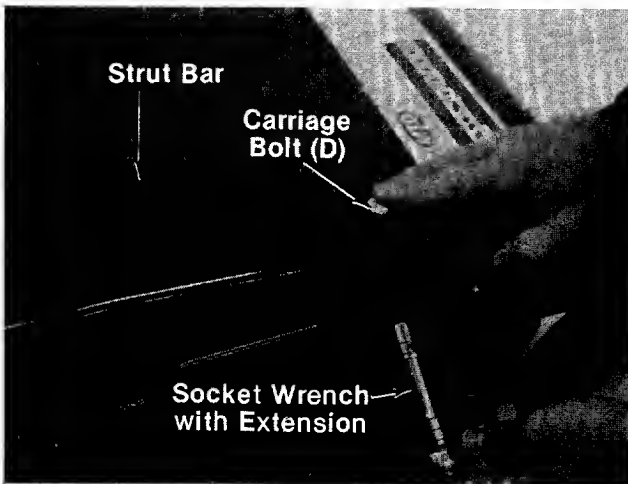

FIGURE 5.
2. Attach the strut bars to the frame with carriage bolts (D), lock washers (H) and hex nuts (I). Lock washers and hex nuts go beneath the deck. A socket wrench with an extension is required. See figure 5.